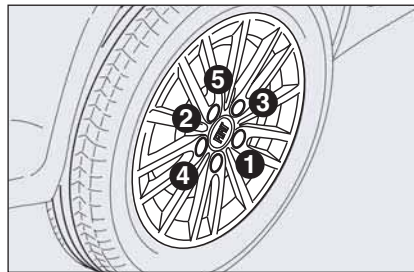

fig. 10
- Using the wrench provided, fully tighten the bolts in the sequence shown in **fig. 10**;